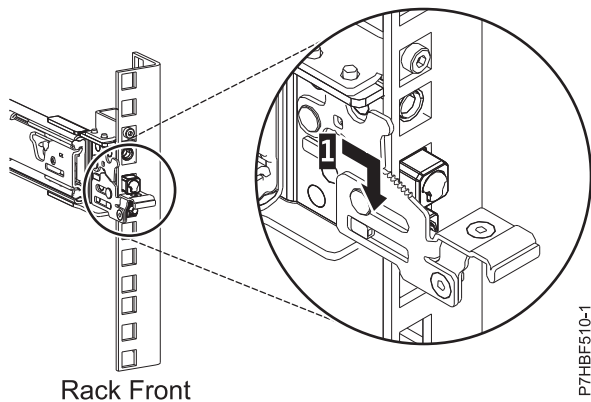

Figure 3. Pins that are seated on the front rail of the rack
3. At the front of the rack, insert three pins on the front of the rail into the holes within the selected EIA unit that were previously marked. Lower the slide rail down (1) to engage the hook feature on the middle pin. For details, see Figure 3 on page 6.